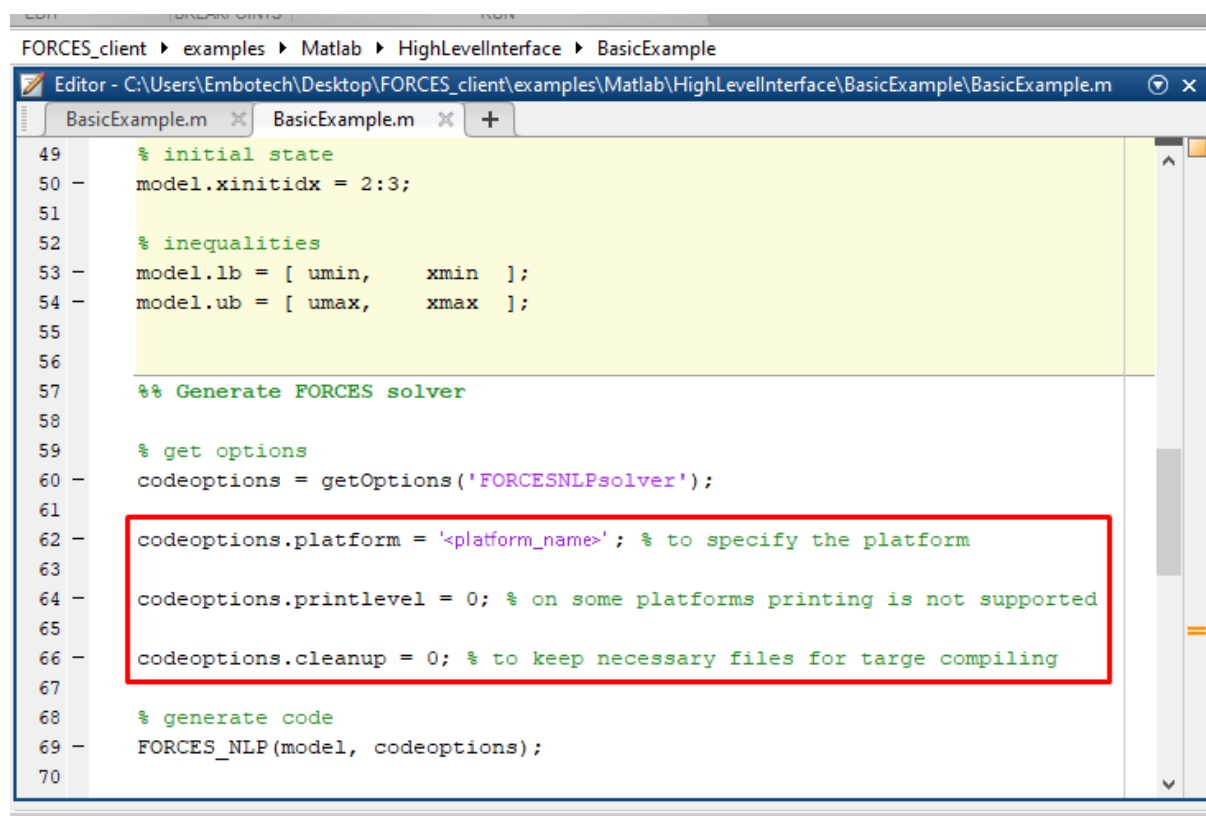

Figure 13.1: Set the appropriate code generation options.
1. (Figure 13.1) Set the code generation options (for <platform_name> see *Platform name codeoption*):